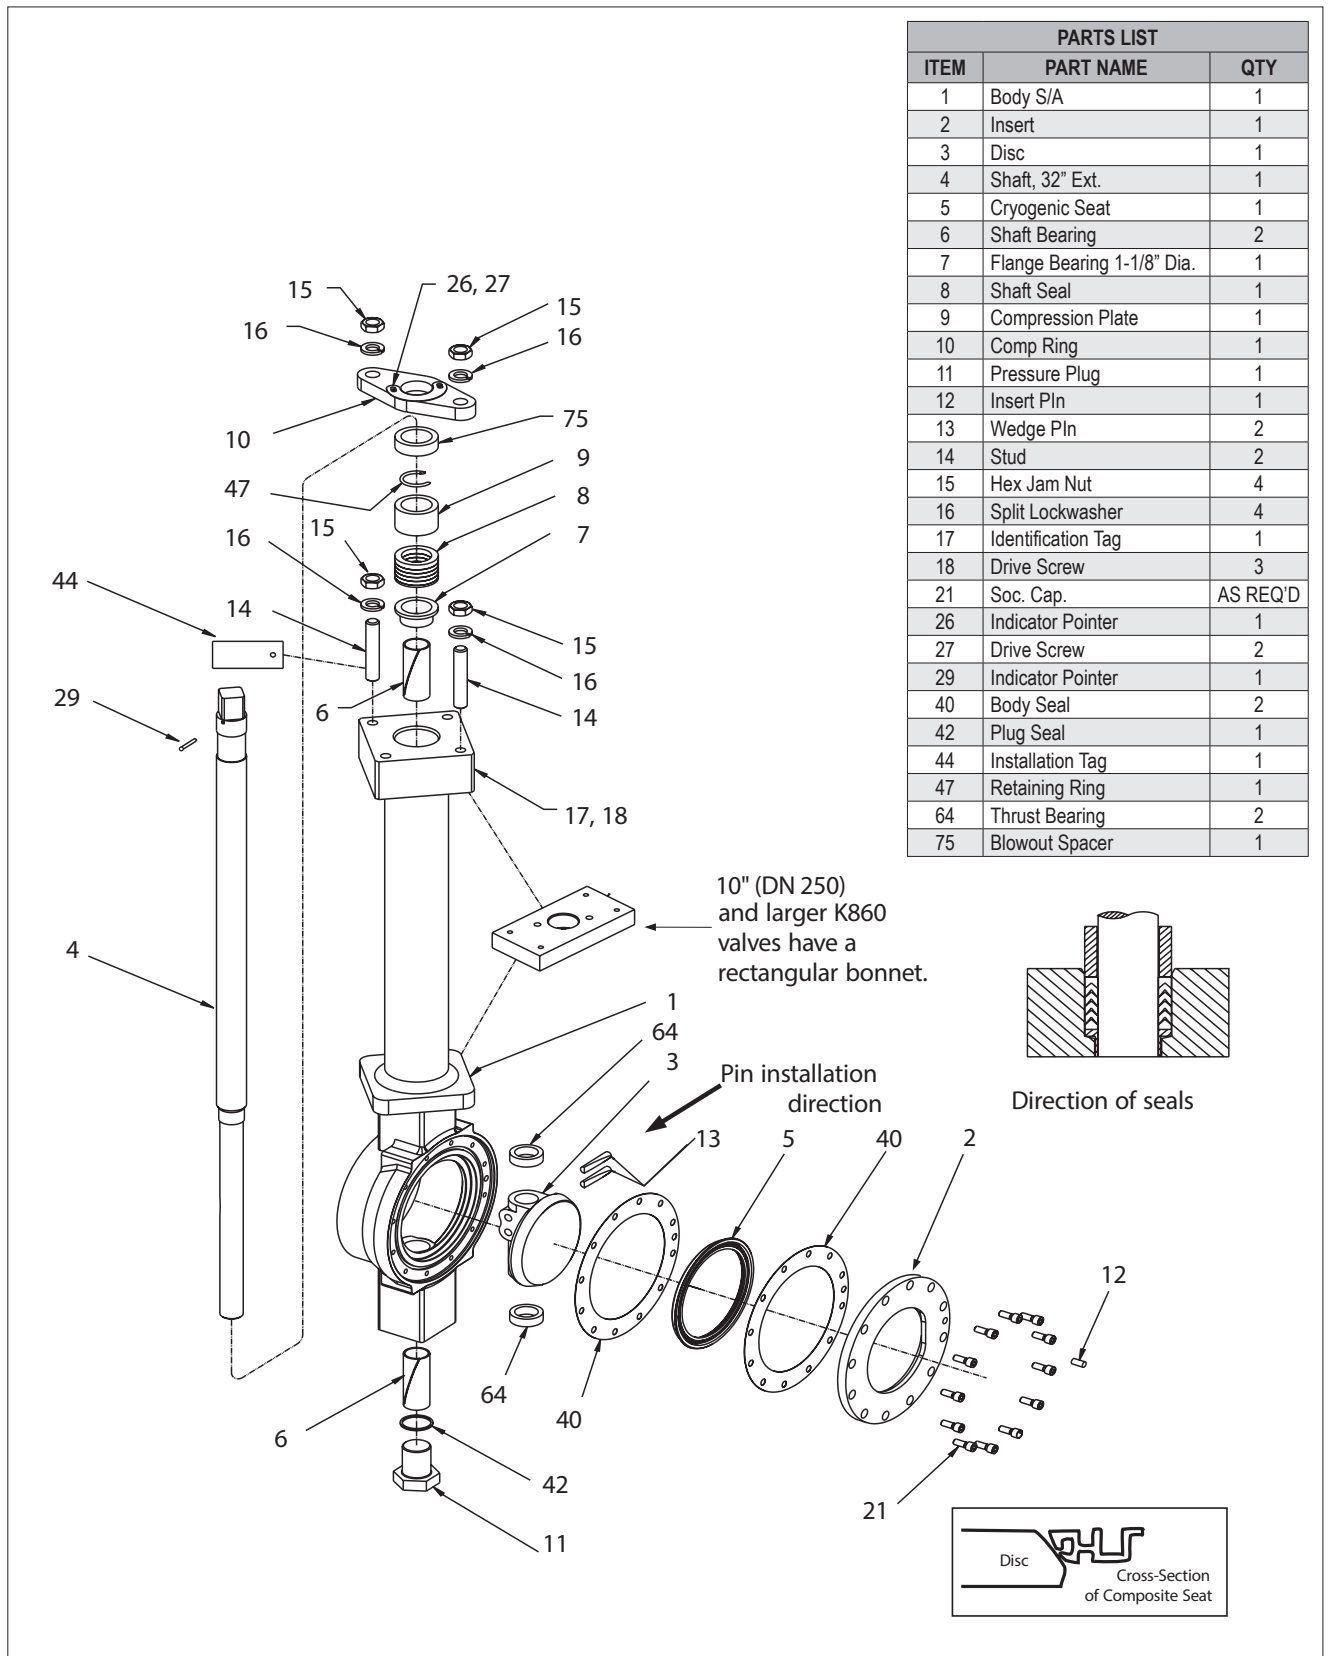

Figure 9.
9. Install the spacer (7), the packing (8), the compression ring (9) (30"– 48" (DN 350-1200) Type K815, 14"– 36" (DN 350-900) Type K830, 14"– 24" (DN 360-600) Type K860 only). If the packing is of the PTFE chevron type, be certain that it is installed in the orientation shown in **Figure 9**.